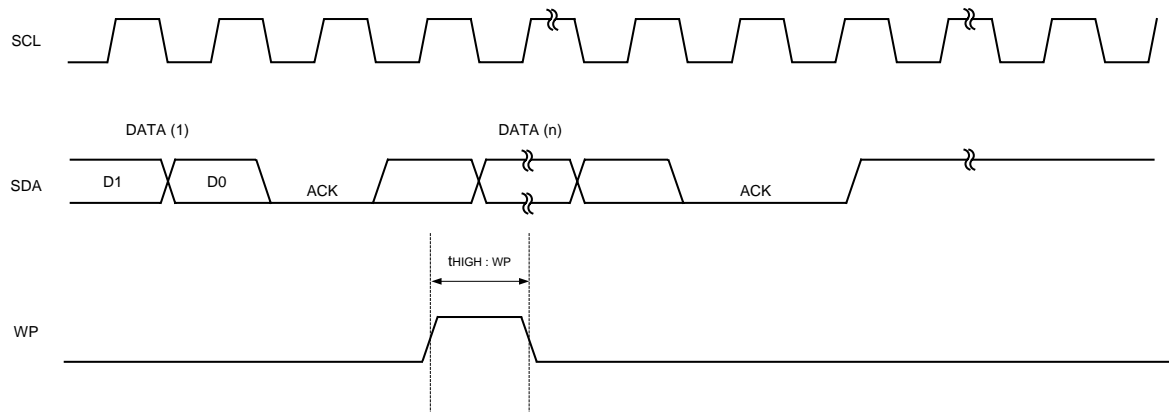

Fig.10(b) WP TIMING OF THE WRITE CANCEL OPERATION
- For the WRITE operation, WP must be "LOW" during the period of time from the rising edge of the clock which takes in D0 of first byte until the end of  $t_{WR}$ . (See Fig.10(a) )